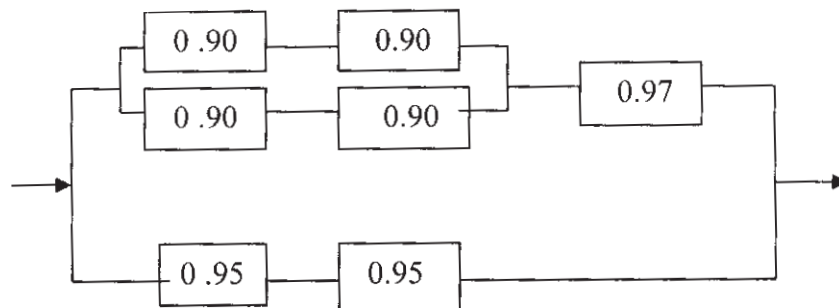

Fig.3
b) Find the system reliability of the configuration in Fig. 3 [8]